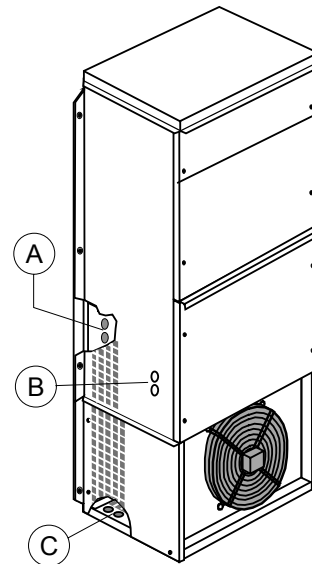

Fig. 16.a
- **0551-0661 models (fig. 16.b):**